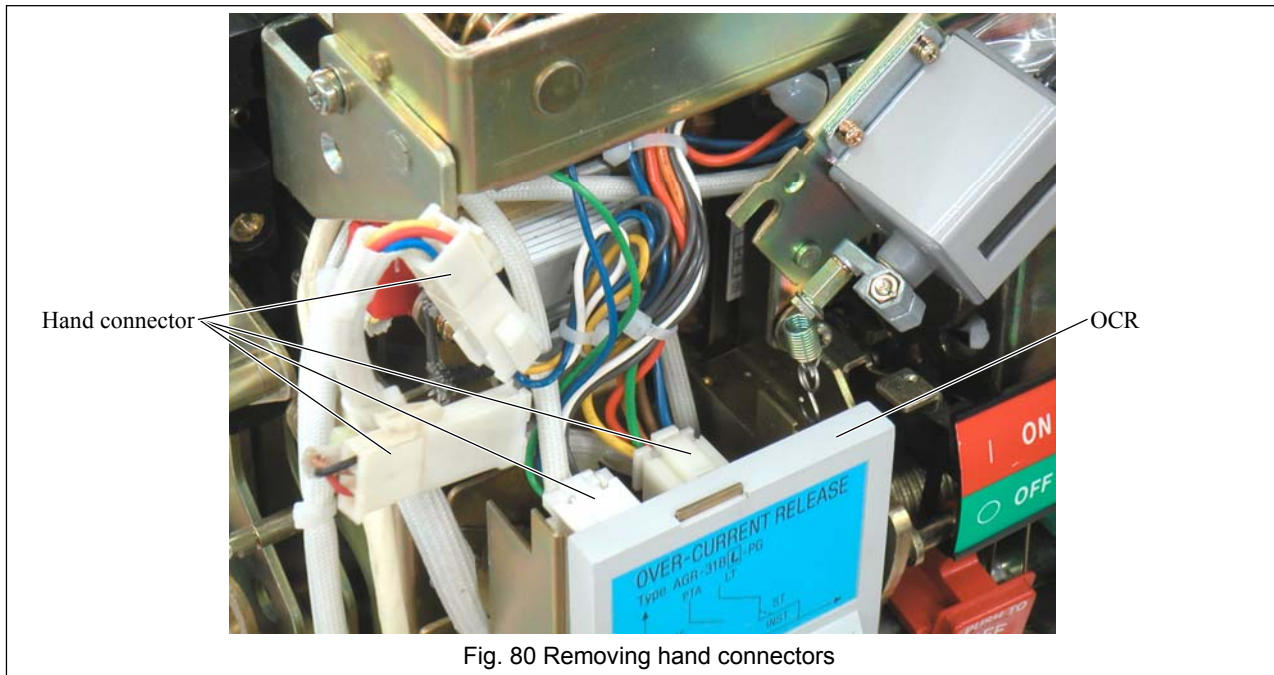

Fig. 80 Removing hand connectors
- 6) Pull out the OCR as shown in Fig. 80, remove the hand connector(s) above the OCR and place it on the floor. The hand connector(s) below the OCR does not require to be removed. The type and quantity of the hand connectors vary depending on the specification of the ACB.